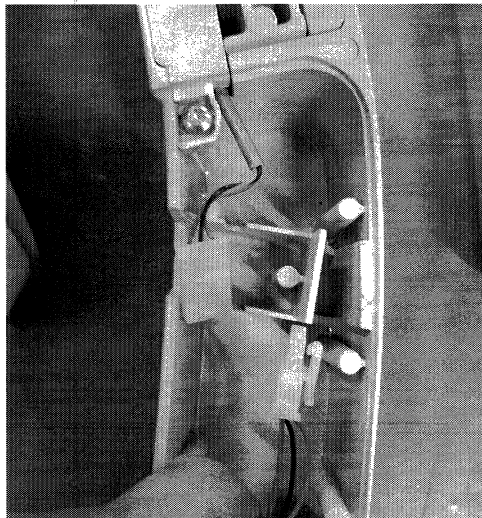

Fig. 6
5. Disconnect Armrest Harness (SRE-30454) from the Paddle Switch Assembly (SRE-30496) [Fig. 6].